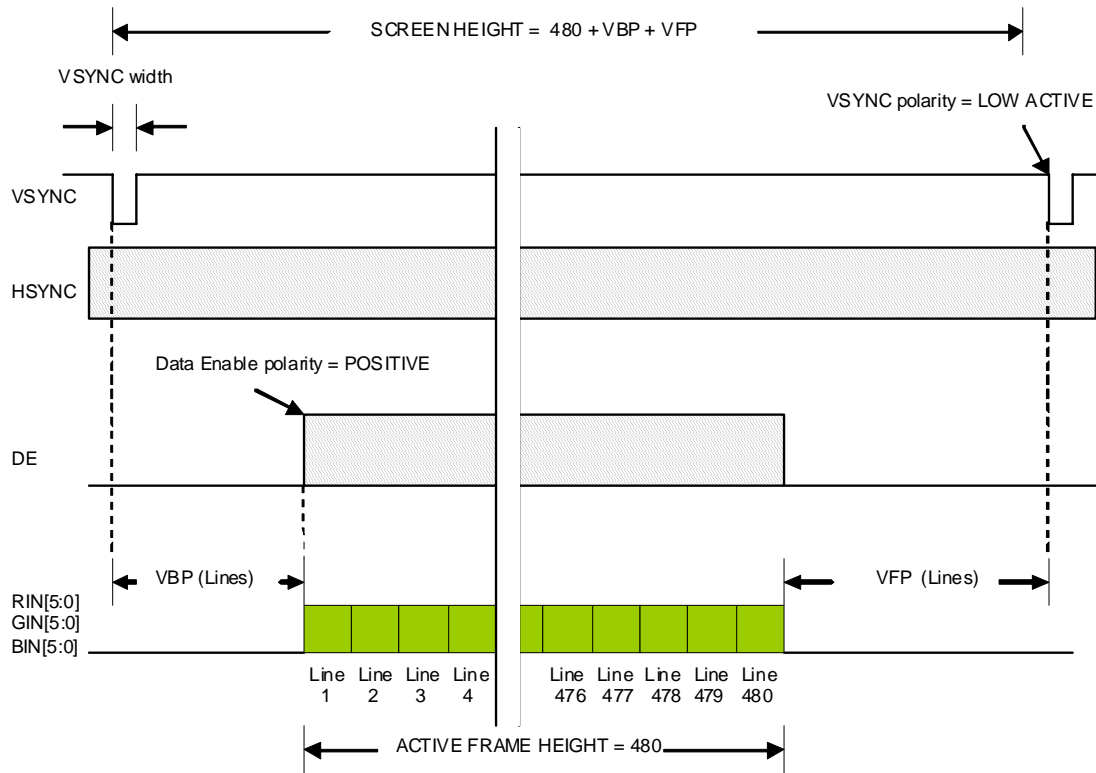

Figure 7. VGA Vertical Timing Example
Figure 7 shows the vertical timing for a hypothetical synchronous display VGA (640H × 480V).
- In Figure 7, it is shown that the VSYNC polarity is active low, which means that vertical synchronization is normally high, but goes low to indicate the beginning of the new frame.
- As shown in Figure 7, VSYNC width (VSW) timing has certain flexibility. So the timing can be set using more than one value. It is highly recommended to use the typical values, or any values close to them. So, 1 line is used as VSYNC width.